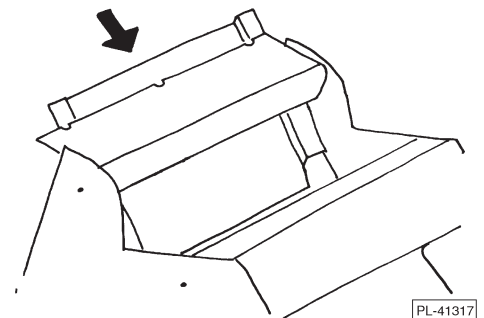

Fig. 22
6. Reassemble the Rear Table (Fig. 22):